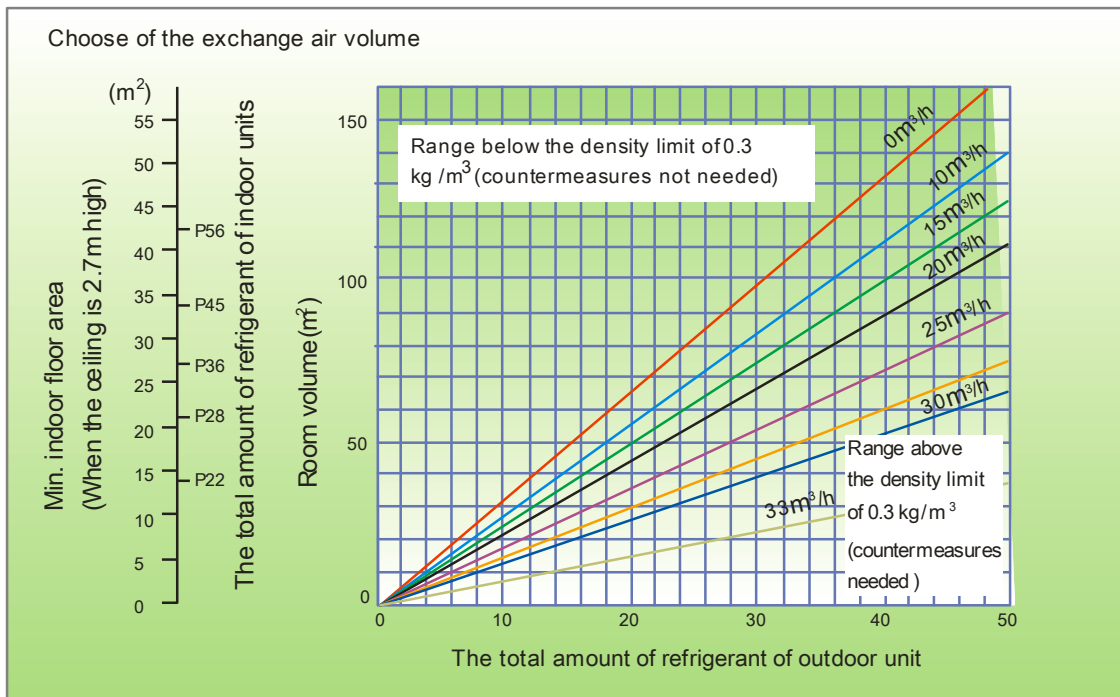

Fig.5.5
According to the system total amount of refrigerant and the room volume, air exchange volume should be greater than the below Fig.5.5 volume.
- ✧ In order to avoid malfunction of air exchange system, please do not choose the range showed in oblique line in Fig. 5.5 even though equipped with air exchange system. If entering into this range, should set effective air exchange port, expand room volume or decrease the amount of outdoor unit, change the piping length in order to decrease total refrigerant amount, in principle according to method ① and ②.
- ✧ Where an air exchange system is provided but it is impossible to take Method 1 or Method 2 when the refrigerant concentration is within the range indicated by the oblique line in Fig. 5.5, please use other means independent from air exchange system to ensure safety. In detail, we can set a refrigerant cutoff valve that can be activated by the detector upon refrigerant leakage